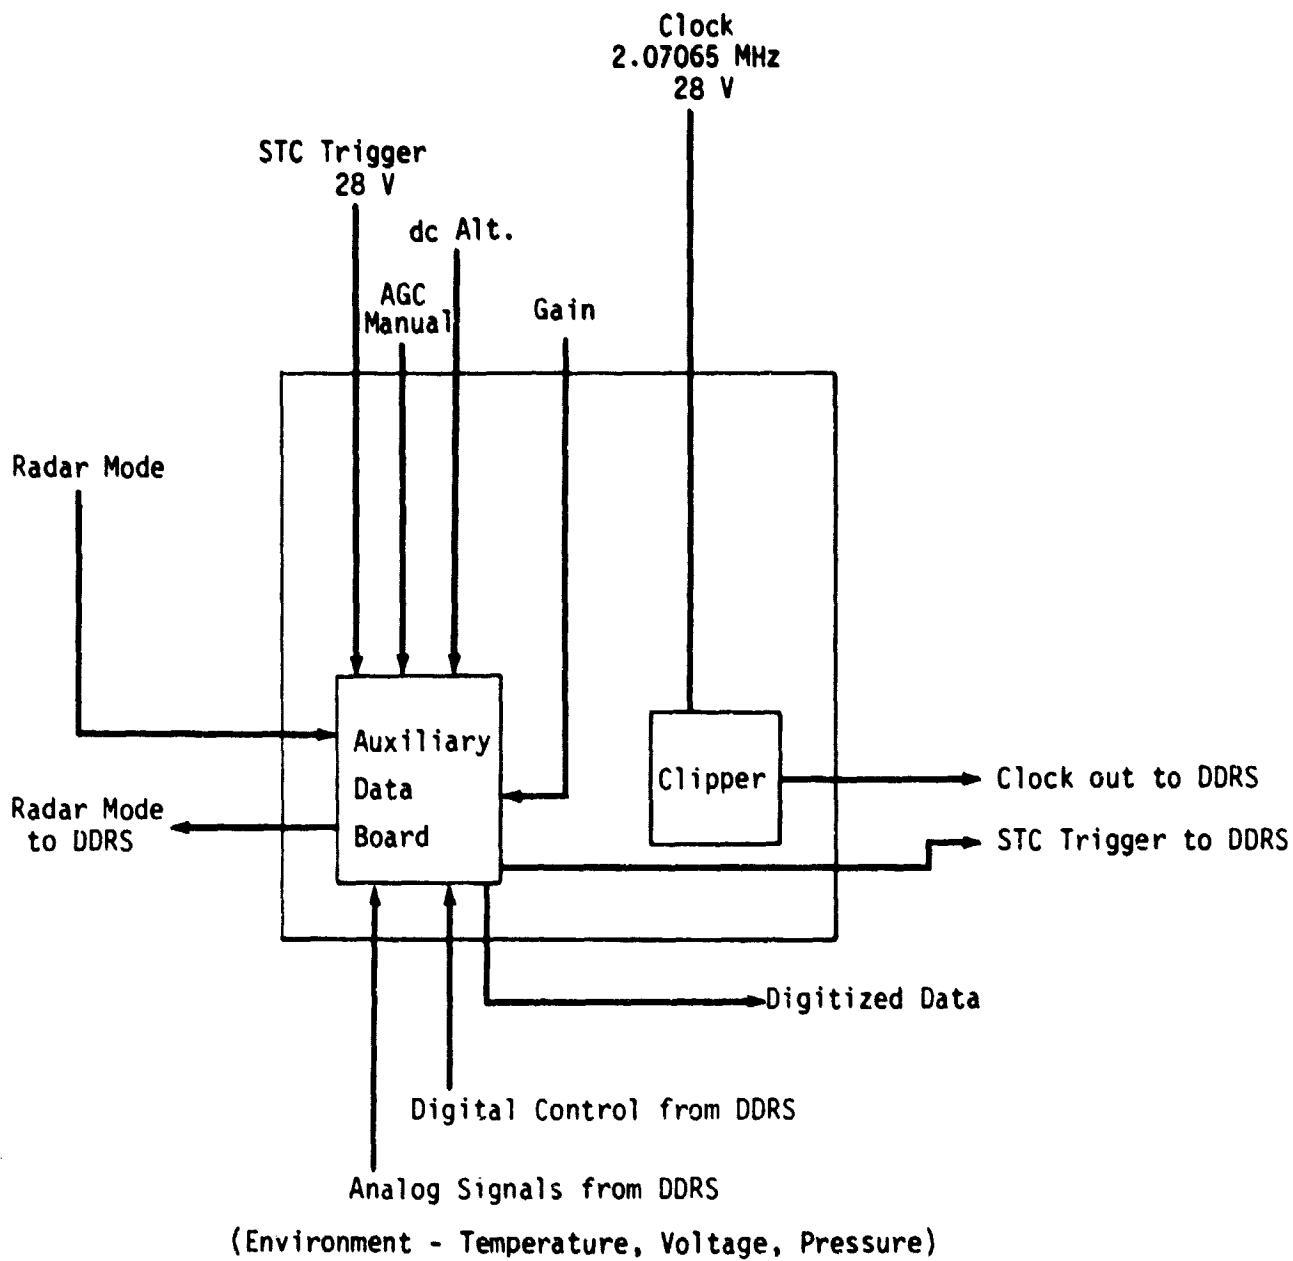

FIGURE 6
The DDRS digitizes analog video in video A/D board 6. Two channels of video are digitized at a sample rate set by the operator (a crew member) setting switches which select the sample interval (SI) and the start of sampling (DRMIN), which is a selected delay from the STC trigger. The latter is routed through the AGC/STC processor, which is a Lockheed-built special device for the APQ-102 radar. See Fig. 6.